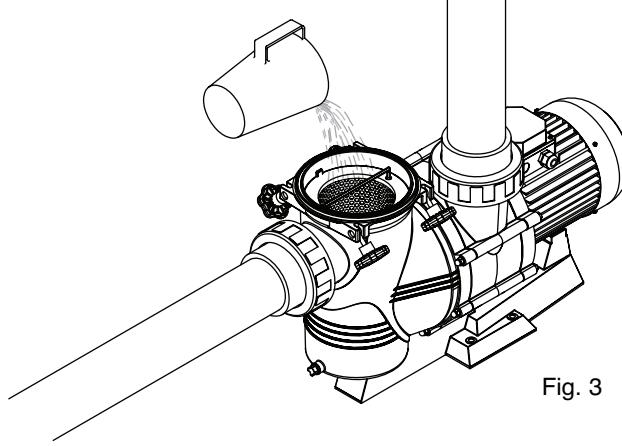

Fig. 3
- !** • For a correct operation, the pump must be primed until water rises from the suction tube.(Fig.3)
- The pumps should never work without having been filled with water beforehand as, otherwise, this could cause a damage to the mechanical seal and eventually producing a water leak. (Fig.3)